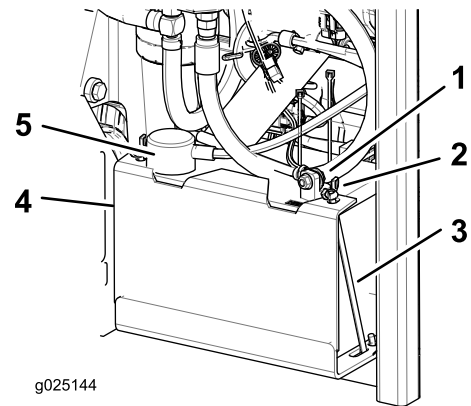

Figure 38
3. Disconnect the negative battery cable (black) from the negative (-)(black) battery terminal (Figure 38).
4. Slide the red terminal boot off the positive (red) battery terminal and remove the positive (+)(red) battery cable (Figure 38).
5. Remove the wing nuts securing the J-hooks (Figure 38).
6. Remove the clamp (Figure 38).
1. Position the battery in the tray with the terminal posts opposite from the hydraulic tank (Figure 38).
4. Secure the cables with 2 bolts, 2 washers, and 2 locknuts (Figure 38).
6. Install the clamp and secure it with the wing nuts and J-hooks (Figure 38).